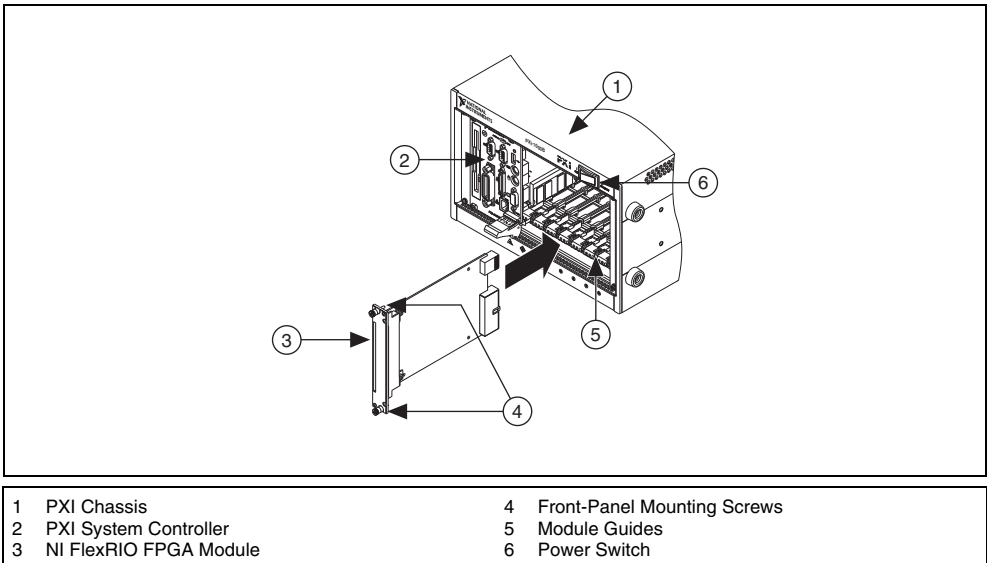

Figure 2. Installing an NI FlexRIO FPGA Module in a PXI Chassis
4. Insert the NI FlexRIO FPGA module into the PXI slot, as shown in Figure 2.